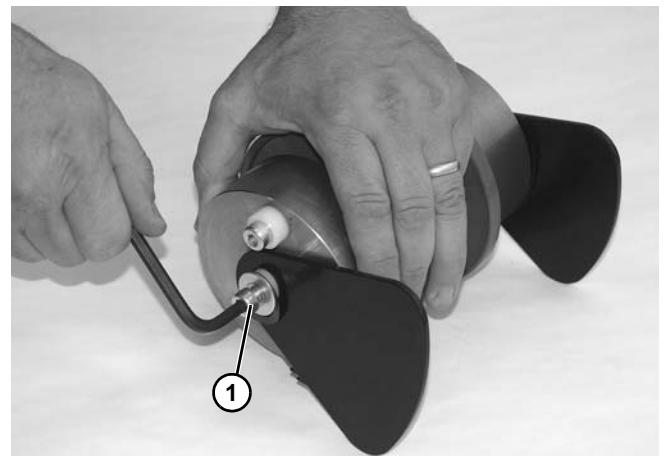

Figure 154
6. Remove socket head screw (**Figure 154, item 1**) from end of idler pulley assembly.